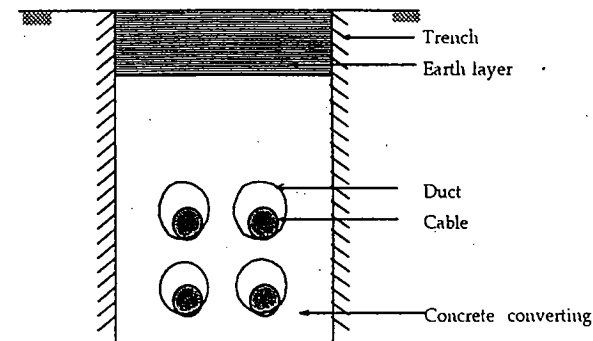

Fig. 3.12 Draw-in-system.
**2) Draw in system:** In this system of laying duct or conduit of cast iron or concrete or glazed stone are laid along the route of cable. In between these conduit man holes are made. From the manholes cables are pulled into conduit during installation and repair. Fig. 3.12 shows section of draw in system for four cables. According to the requirements the system can be of single duct or multiduct. This method of cable laying is used in the cities and areas where excavation is expensive and inconvenient. This method is generally used for small distance of laying, like road crossing, workshop etc. Where once the conduits have been laid, repair and alteration can be easily done through manholes without opening the ground. The span between the manholes should not be too long to make pulling of cable easier. The cable used in this system need not be armoured but it must be provided with serving.
- ① It is more expensive than direct laid system.
- ② It requires skilled labours & favourable weather conditions
- ③ Due to poor heat dissipation, current carrying capacity